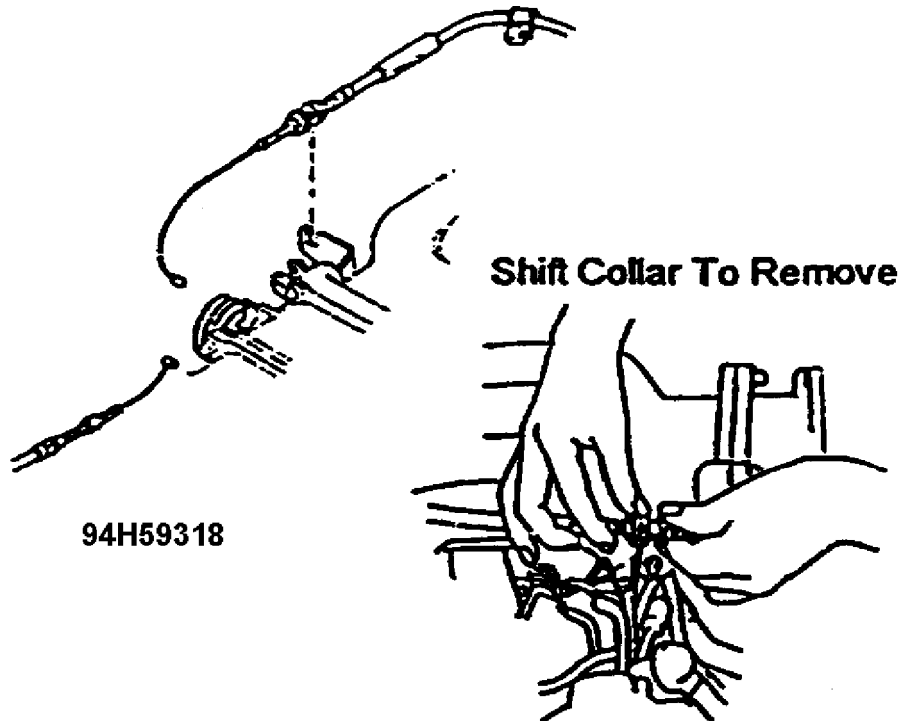

Fig. 5: Removing Accelerator Cable & the Cruise Cable
15. Remove the accelerator cable and the cruise cable. See Fig. 5.